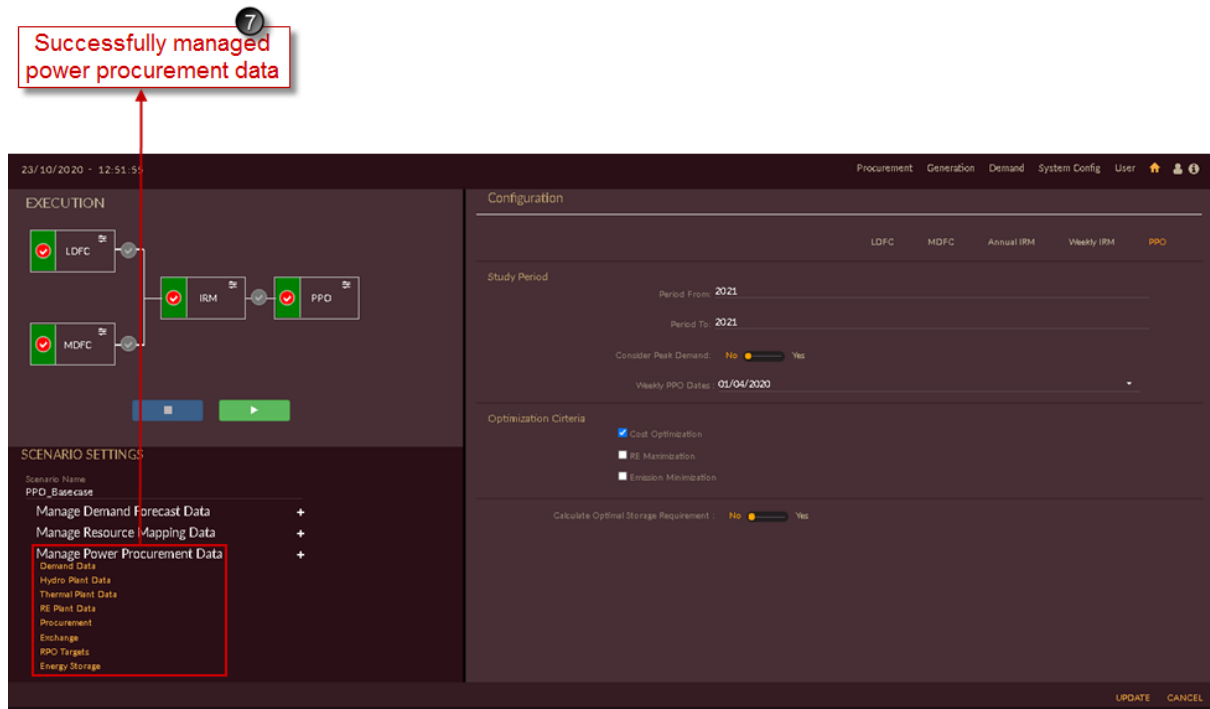

Figure 287. Finalized PPO Scenario
- After managing all power procurement data like Demand Data, Hydro Plant Data, Thermal Plant Data, RE Plant Data, Procurement Data, Exchange Data, RPO Targets Data and Energy Storage Data into the PPO Base case scenario, you will see the page as shown in Figure 287.